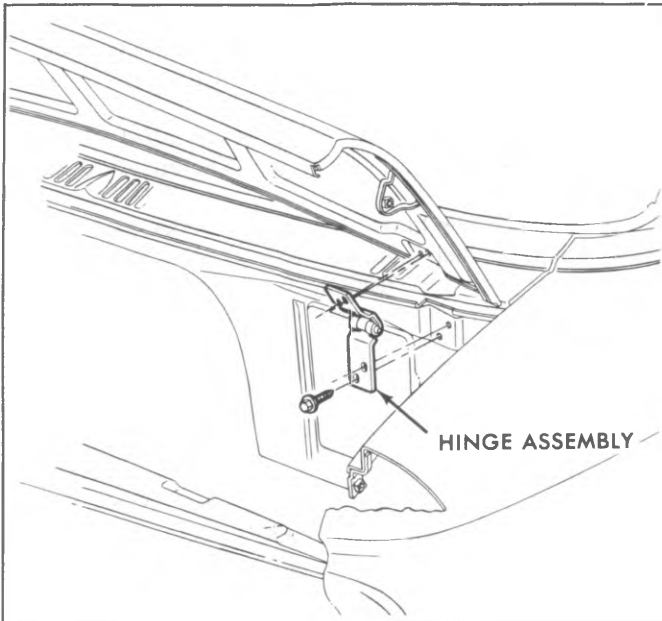

Fig. 2C-7--Hood Hinge-G Model
1. Adjust lock bolt as shown in Figure 2C-9.